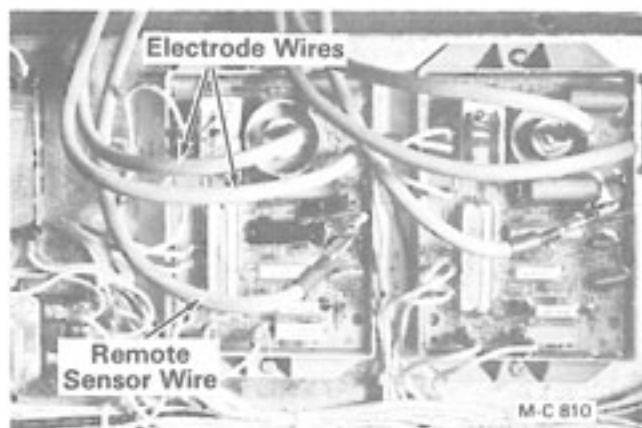

Figure 46 - Ignition Boards
- A. Flip the ignition switch OFF. Remove the electrode wires from terminals E-1 and E-2 on the ignition board, see Figure 46, 47 and 48.